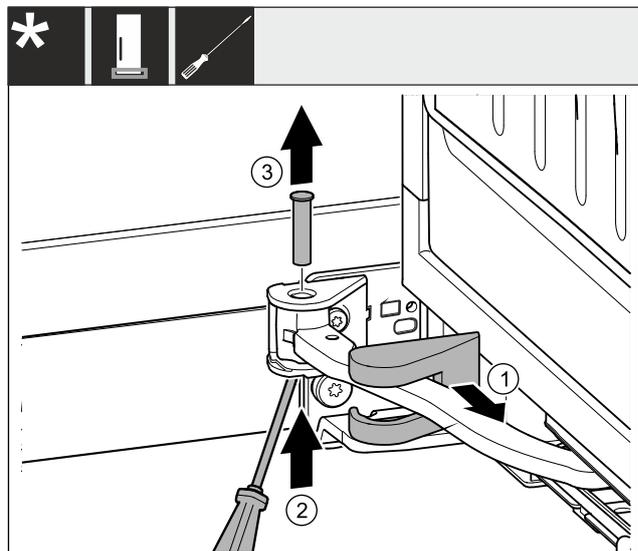

Fig. 5
- ▶ Remove the swap bearing block cover and slide along the joint. *Fig. 5 (1)*
- ▶ Use your finger or a screwdriver to lift the bolt from below. *Fig. 5 (2)*
- ▶ Push the screwdriver under the bolt head and pull it out. *Fig. 5 (3)*